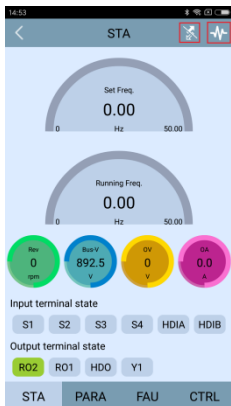

Figure 4
- D. After the connection is completed, return to the detailed information page of the local monitored device to start the monitoring, as shown in Figure 4.